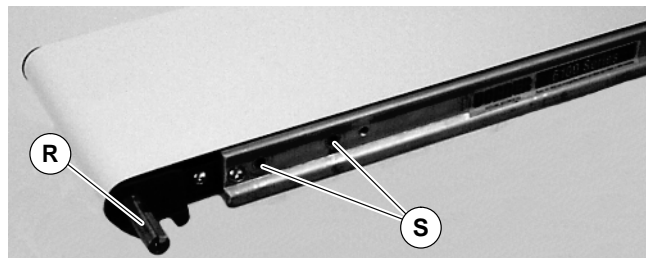

Figure 3
2. Locate drive output shaft (R of Figure 3) and remove two (2) screws (S).